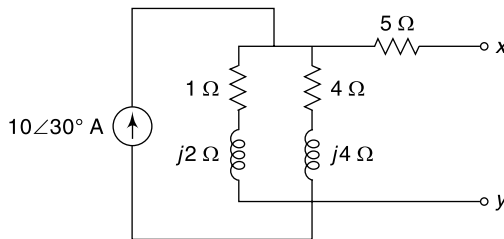

Fig. 6.34 Circuit of Ex. 6.33
6.33 Obtain Norton's equivalent circuit across terminals xy in Fig. 6.34.